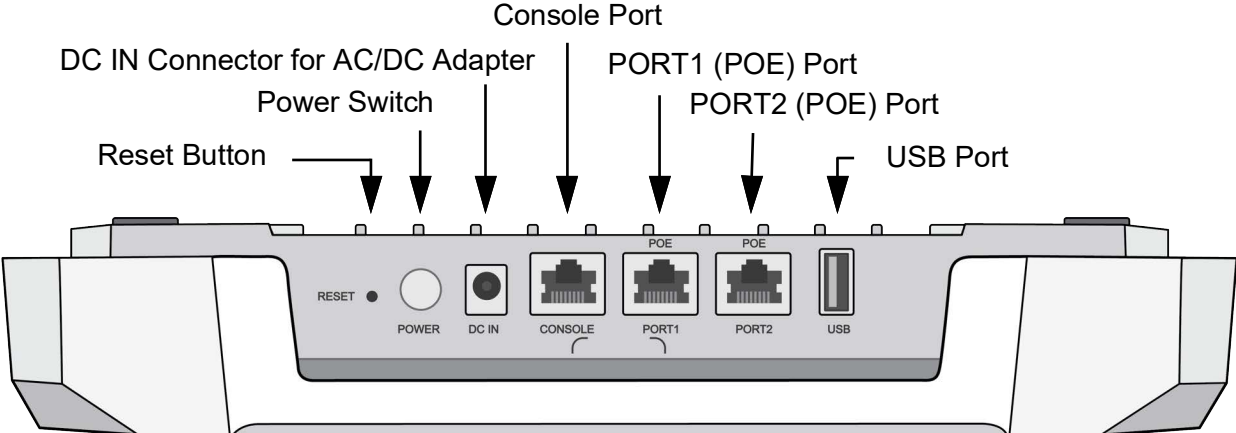

Figure 4. Back Edge View
The back edge view is illustrated in Figure 4.
**Power Switch** The Power Switch on the back panel in Figure 4 on page 13 turns ON or OFF the access point when power is supplied to the access point only from the AC adapter, not from the PORT1 (POE) or PORT2 (POE) ports.
The access point has a Reset button on the back edge for returning the settings of the device to their default values. See Figure 4 on page 13. You might reset the access point if you want to discard its current configuration or if you forgot the manager password and so cannot manage the device.